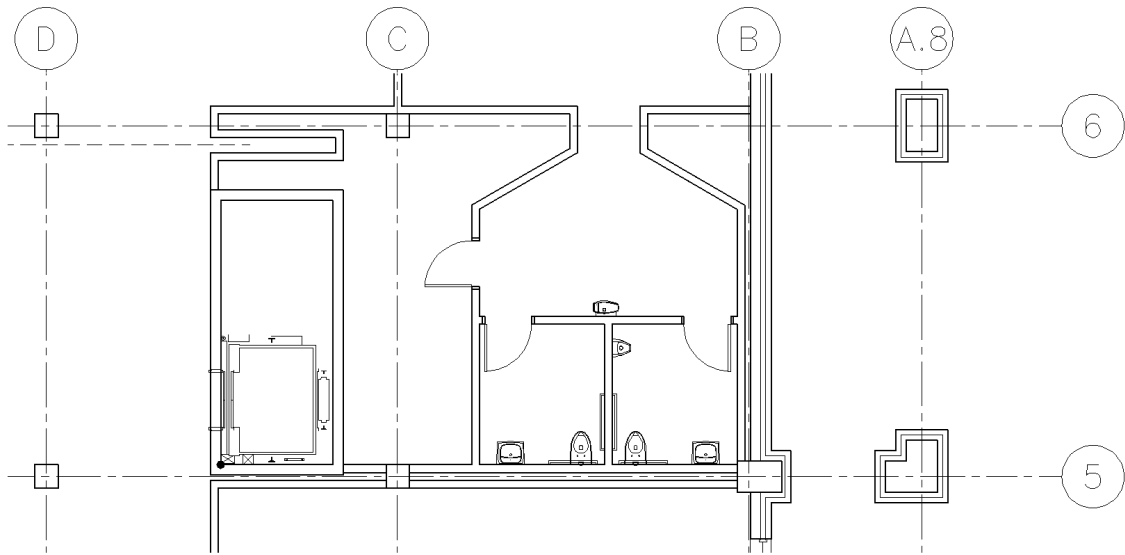

Figure 3-3.10 Elevator inserted into your floor plan (black dot in lower-left for reference only)
26. Select the same, relative, location as the insertion point (shown as a black dot in Figure 3-3.10).
27. Use the **Mirror** command to copy a mirror image of the elevator car to the opposite side of the shaft (see Figure 3-3.10).